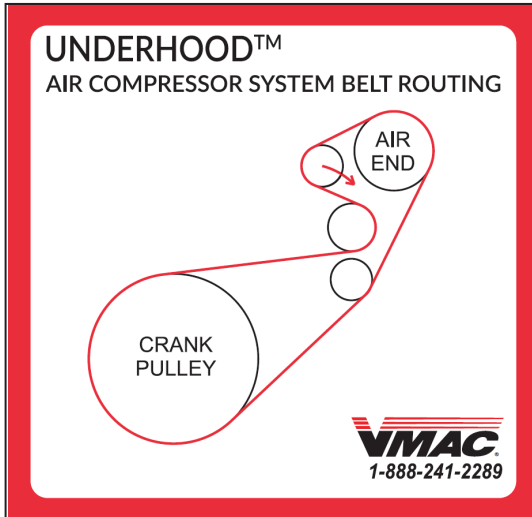

Figure 66 — Belt routing decal
- Install the VMAC belt routing decal in a suitable location under the hood (Figure 66).